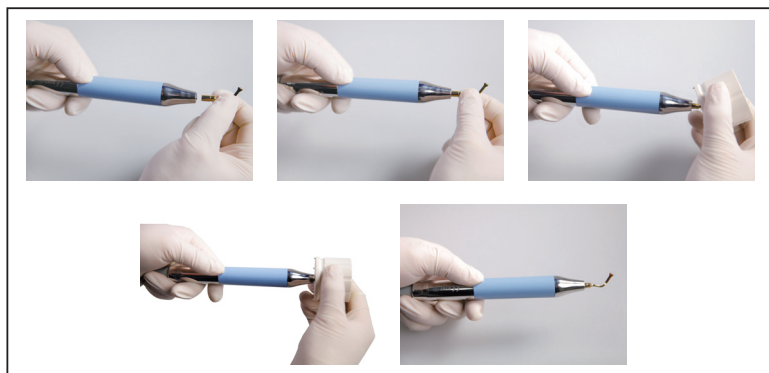

Fig.8
6.3.10 Use the torque wrench to screw the tip (Fig.8) till the clattering voice;
7.5.3 To use the torque wrench correctly (Fig.8) proceed as follow;
the plastic casting (Fig.8) and do not turn it while fastening the tip in place;